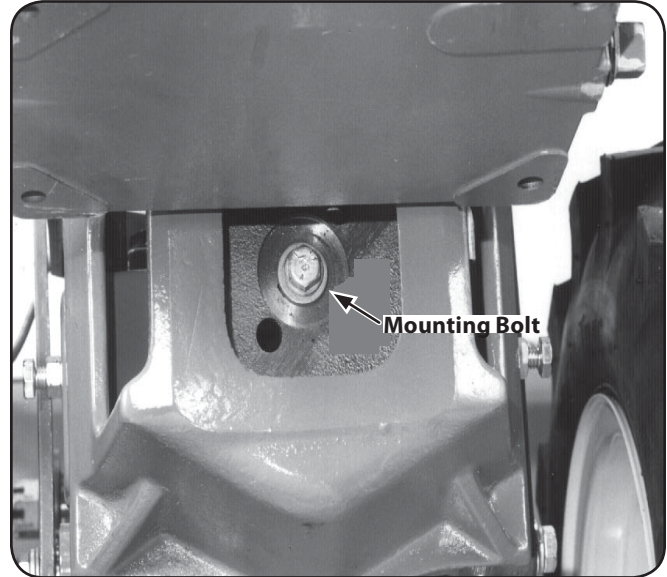

Figure 6-1
- If the washer behind the bolt head is loose, the bolt needs tightening. To do this, first insert a punch or thick screwdriver into the hole next to the bolt and wedge the tool against the side of the motor mount casting. This immobilizes the pulley while you tighten the bolt. See Fig. 6-1.